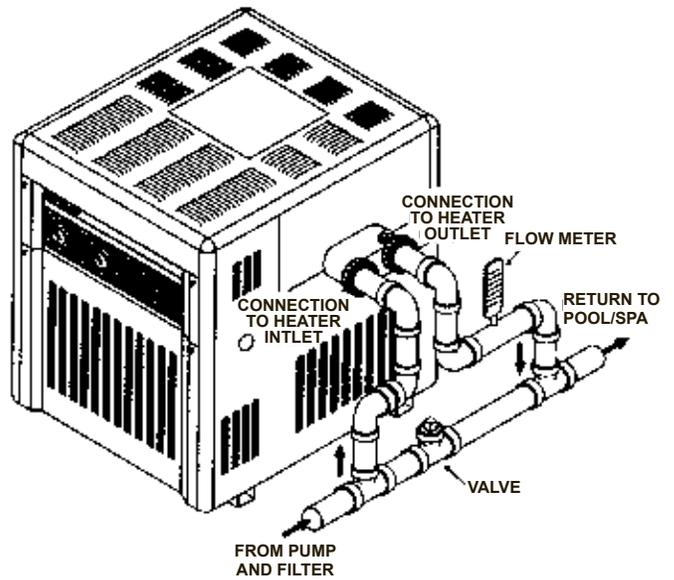

Figure 24: Manual By-pass Valve
6. If the normal pump and filter system flow rate exceeds 125 gpm then a manual by-pass valve, as shown in Figure 24, must be installed as follows: Install a flow meter on the outlet line of the heater. Adjust the manual by-pass valve until the flow rate is within the rates required for the heater. Once the valve is set, the position should be noted and the valve handle removed to avoid further adjustment.